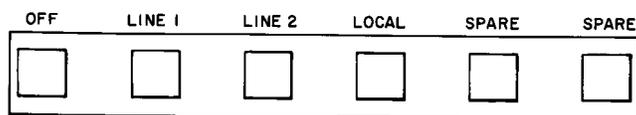

Fig. 8—Data Set 109C-L1 Key Arrangement
3.05 External to the EU1 circuit pack but interconnected to it is a 635T2 key, which provides a switching control for selecting the mode of operation. Connections between the key and circuit pack are made via a spade-ended cord (CA1) and screw terminals located on the rear of the circuit pack. The CA1 cord plugs into the key at one end. The free end is terminated with spade lugs which permit the installer to rearrange connections to the circuit pack for different required features. Key designations are shown in Fig. 8 and explained in Table B.